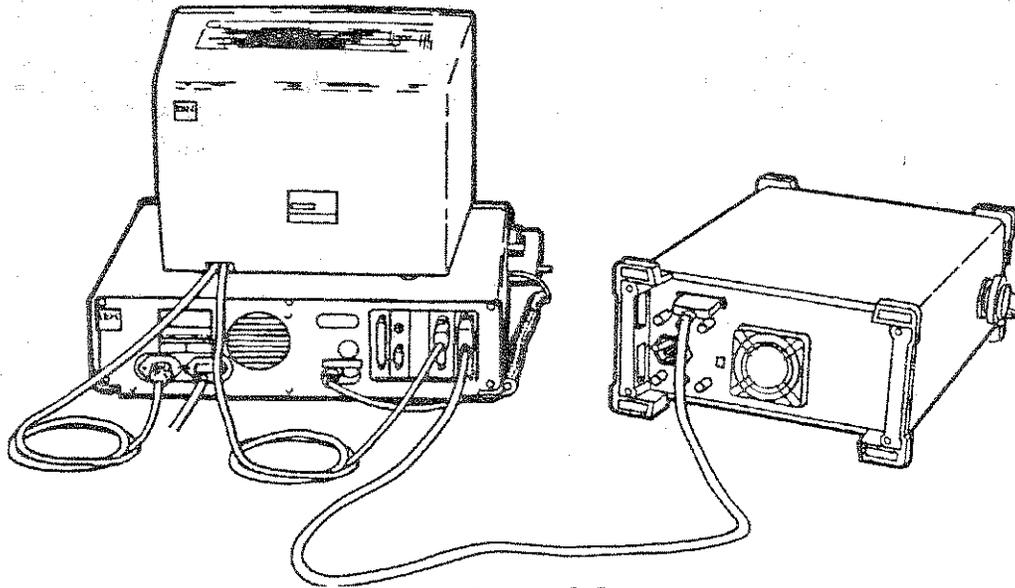

Figure 1-5
1. Connect the analyzer to the computer, using the RS-232 cable. Figure 1-5. Note the gender of the connectors. The analyzer uses a female RS-232 connector. The IBM PC/XT/AT computer usually uses a male RS-232 connector. Some compatibles use a female RS-232 connector.